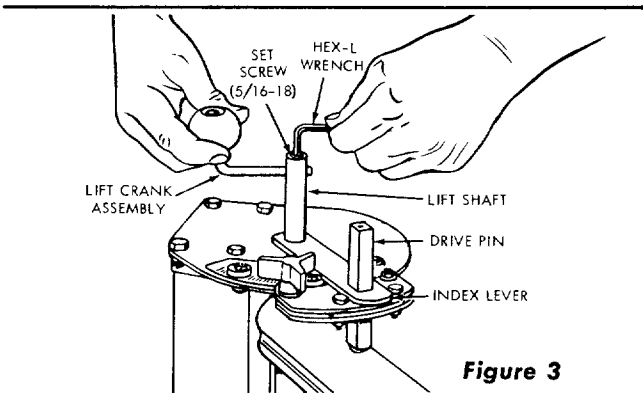

Figure 3
d. Using the 5/16-inch hex-L wrench, loosen the set screw in upper end of the lift shaft, rotate the lift crank assembly to a vertical position and tighten the set screw securely. (See figure 3.)